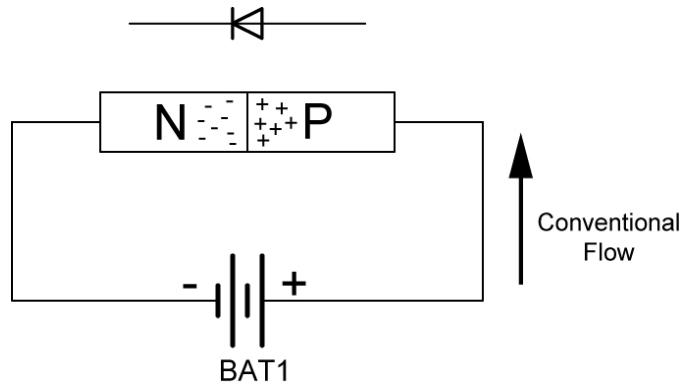

Figure 3 Forward Biased Diode
- Forward Biased: In Figure 3, once a small potential (approximately 0.7 V) is overcome in the diode, current will flow through the diode. This drawing is for illustration purposes only; a load must be in the circuit for a forward biased diode otherwise it may be considered a short circuit. Remember that the direction of electron flow is opposite that of conventional flow.